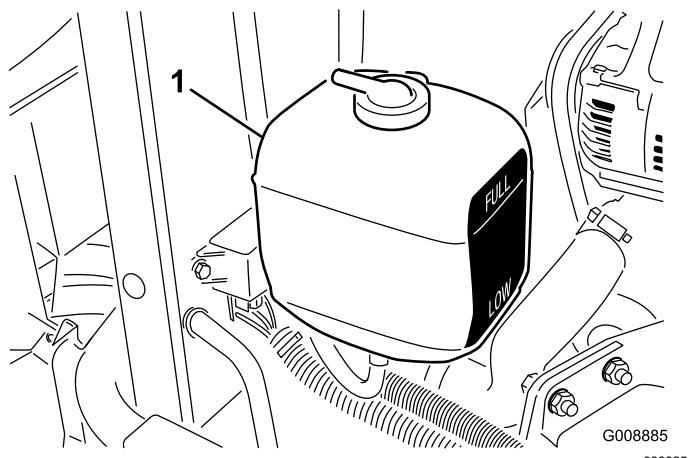

Figure 29
2. Check the coolant level in the expansion tank (Figure 29). With a cold engine, the coolant level should be approximately midway between the marks on the side of the tank.